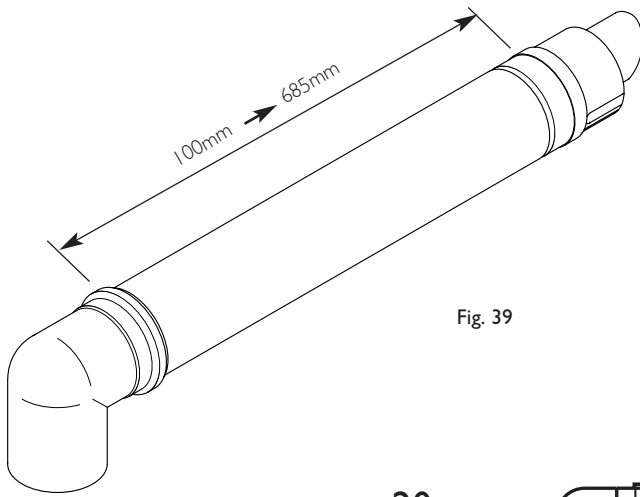

Fig. 39
1. The standard flue is suitable for lengths between 100mm minimum and 685mm maximum, as measured from the edge of the flue elbow outlet to the joint between the terminal and air duct (Fig. 39).